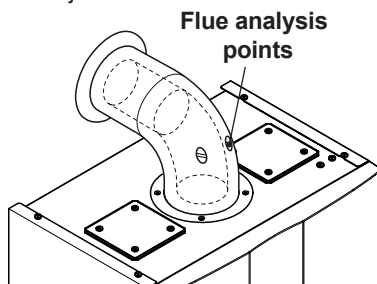

Fig. 10.13
It is recommended that a combustion analysis check is made. Remove the plug as indicated in Fig. 10.13 and carry out combustion analysis check and adjustment if
- Check the combustion of the boiler using the outlets located on the flue tubes (Fig. 10.13) and compare the data measured with that following.